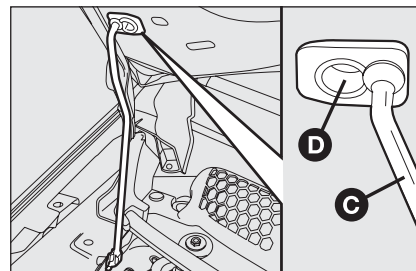

fig. 98
- lift the bonnet and at the same time release the rod **C**-fig. 98 from the catch, then fit the rod end into the bonnet recess **D**.
- hold the bonnet up with one hand and with the other remove rod **C**-fig. 98 from recess **D** and fit it back into its catch;